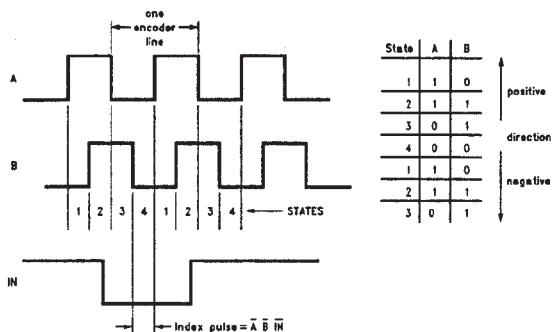
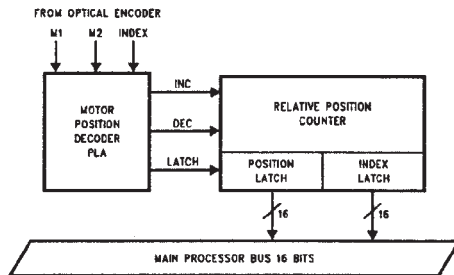

FIGURE 3. Quadrature Encoder Output Signals and Direction Decode Table
FIGURE 4. LM628/629 Motor Position Decoder
- Figure 3. Quadrature Encoder Output Signals and Direction Decode Table
- Figure 4. LM628/629 Motor Position Decoder
to provide position and direction information. *Figure 3*. Optionally a third index position output signal can be used to capture position once per revolution. Each of the four states of the quadrature position signal are decoded by the LM628/629 giving a 4 times increase in position resolution over the number of encoder lines. An "N" line encoder will be decoded as "4N" position counts by LM628/629.
Position decoder block diagram, *Figure 4*, shows three lines coming from the shaft encoder, M1, M2 and Index. From these the decoder PLA determines if the motor has moved forward, backward or stayed still and then drives a 16-bit up-down counter that keeps track of actual motor position. Once per revolution when all three lines including the index line are simultaneously low, *Figure 3*, the current position count is captured in an index latch.
Maximum encoder state capture rate is determined by the minimum number of clock cycles it takes to decode each encoder state, see Figure 3, this minimum number is 8 clock cycles, capture of the index pulse is also achieved during these 8 clock cycles. This gives a more than adequate 1 MHz maximum encoder state capture rate with the 8 MHz f_{CLK} devices (750 kHz for the 6 MHz f_{CLK} devices). For example, with the 1 MHz capture rate, a motor using a 500 line encoder will be moving at 30,000 rpm.